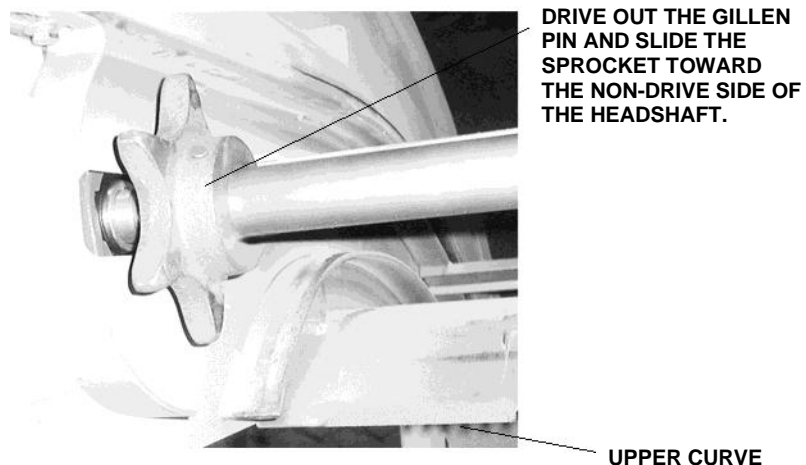

Figure 16: Removing the gillen pin
10. Facing the discharge opening, pull on the lower half of the metal belt until the upper run clears the headshaft; lower the lower run onto the upper curve (Figure 16).
- I. Via the discharge opening, drive out the gillen pin on the drive end of the headshaft (Figure 16), or loosen set screws in hub if keys are used. With the sprocket now free to move, slide the sprocket toward the non-drive side of the headshaft.